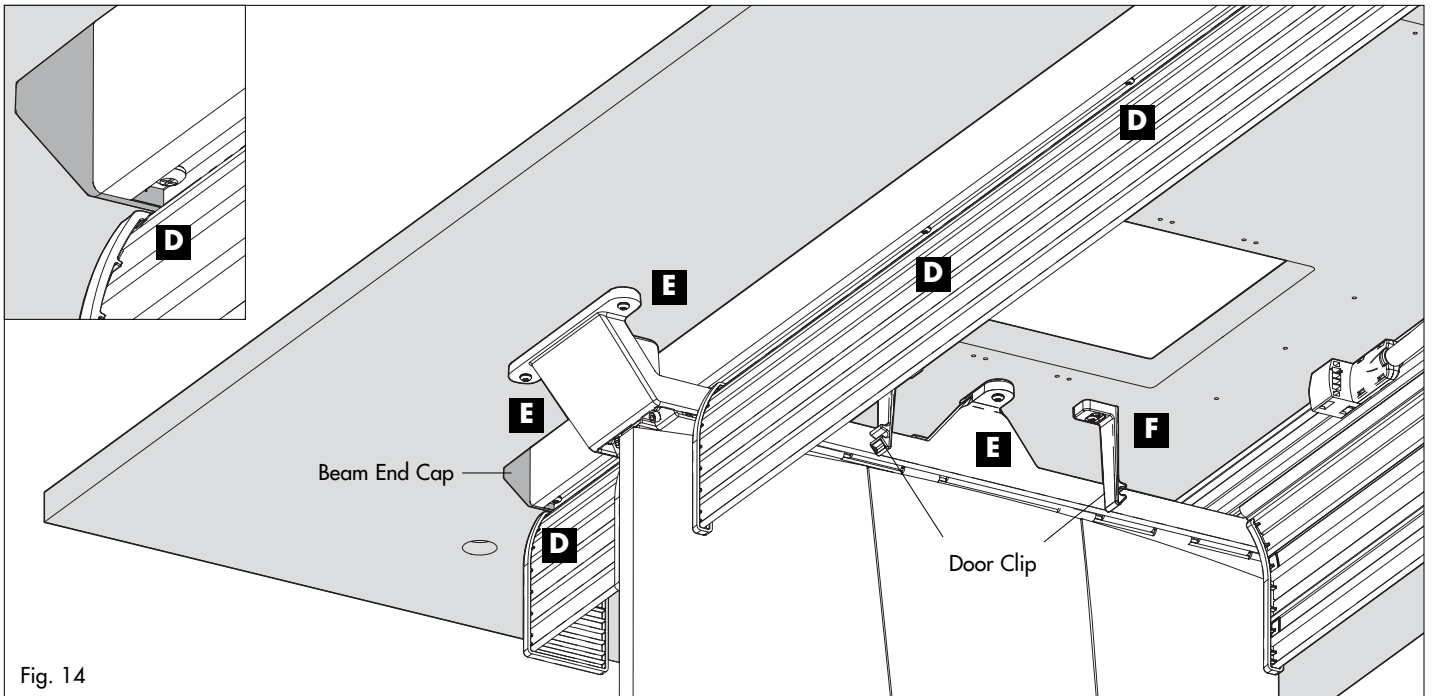

Fig. 14
Start screws (D) through beam end caps and beams in to pilot holes in the table top. After all beam screws are started, finish tightening all beams screws from the center to the ends. See Fig. 14.
Install screws (E) through bracket casting holes into pilot holes in the table top. (6 screws/bracket) See Fig. 14.
Install each door clip with screws (F) into pilot holes in the table top. (2 screws/clip) See Fig. 14.